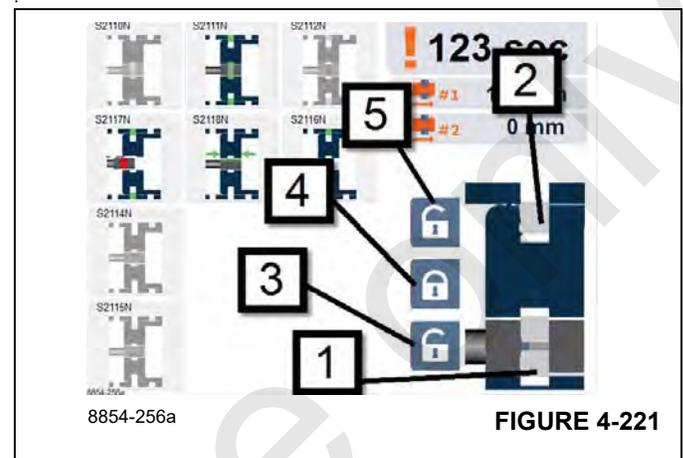

FIGURE 4-221
The remaining proximity switches, S2114N and S2115N (Figure 4-221), are for the cylinder pins being retracted, so they are shown in a column format to be logical with respect to their location on the tele cylinder.
(Figure 4-221) has further explanation for the Telescoping Emergency Program screen. Item 1 is the graphical representation of the tele cylinder pins that connect to a telescoping boom section. When these cylinder pins are considered retracted, an unlock symbol will appear in this location.
Item 2, (Figure 4-221) is the graphical representation of the boom section and its pins that connect to the next telescoping boom section. Note that in the Telescoping Emergency Program; the actual boom section is no longer able to be determined; the crane operator must determine this. When these section pins are considered retracted (at least the actuator has moved to attempt this), an unlock symbol will appear in this location.
Item 3, (Figure 4-221) is the indicator for a command to attempt to retract the cylinder pins. The arrow buttons on the display or the jog dial can be used to highlight this, and hitting the OK/Enter button will then attempt to execute the command. The lock/unlock symbol on the button does not change based on the cylinder operations (refer to Items 1 and 2).
Item 4, (Figure 4-221) is the indicator for a command to release or re-extend pins. This command works for both the cylinder pin retracting and the section pin retracting; they are connected to the same double-acting hydraulic actuation cylinder, so it can only release the pins that had been previously retracted (whichever they were). The arrow buttons on the display or the jog dial can be used to highlight this, and hitting the OK/Enter button will then attempt to execute the command. The lock/unlock symbol on the button does not change based on the cylinder operations (refer to Items 1 and 2).
Item 5, (Figure 4-221) is the indicator for a command to attempt to retract the section pins. The arrow buttons on the
The telescoping cylinder is locked to a telescoping boom section (no unlock symbol shown near the graphical representation of the tele cylinder - refer to Item 1 in (Figure 4-221).
The telescoping boom section is unlocked (the unlock symbol is shown near the graphical representation of the section pins - refer to Item 2 in (Figure 4-221).
- Select and confirm the symbol (3), (Figure 4-221).
The telescoping boom section is locked (the unlock symbol is not shown near the graphical representation of the section pins - refer to Item 2 in (Figure 4-221).
- Select and confirm the symbol shown as Item 4 in (Figure 4-221).